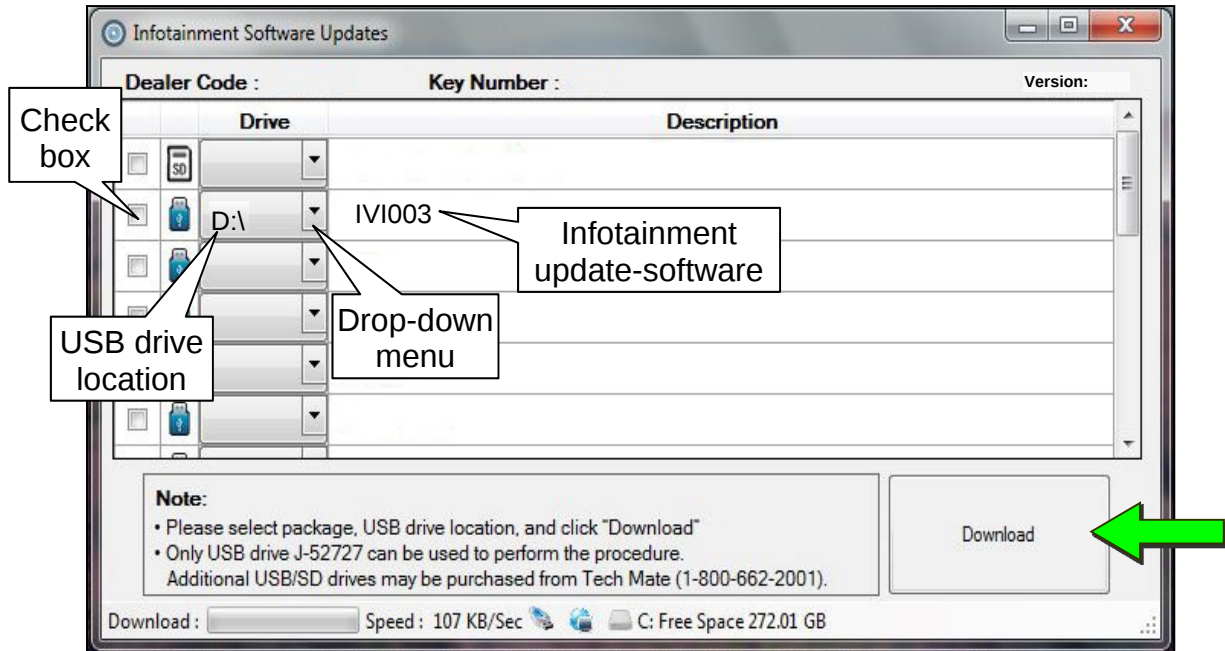

Figure 4
8. Select the check box next to the **IVI003** infotainment update-software (Figure 4).